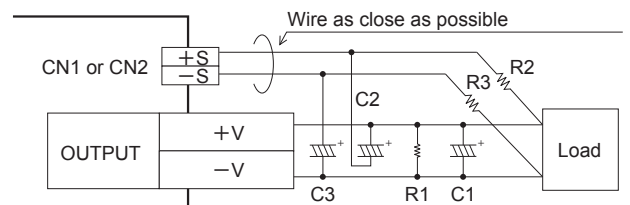

Fig. 1.4 When using remote sensing function
- Please see Fig. 1.4 if you use the remote sensing function.
- ① Wire carefully. When a connection of a load line becomes loose (due to such factors as loose screw), the load current flows to the sensing line and internal circuits of the power supply may be damaged.
- ② Use a sufficiently thick wire to connect between the power supply and the load and keep the line drop at 0.3V or below.
- ③ Use a twisted pair wire or a shielded wire as the sensing line.
- ④ Do not draw the output current from +S or -S.
- ⑤ When the remote sensing function is used, the output voltage of the power supply may show an oscillating waveform or the output voltage may dramatically fluctuate because of an impedance of wiring and load conditions. Please check and evaluate carefully before using the remote sensing function. If the output voltage becomes unstable, we suggest you to try to connect C1, C2, C3, R1, R2 and R3.
- ⑥ If the output voltage is unstable because the sensing line is long, adjust R2 and R3. Please contact us for details.